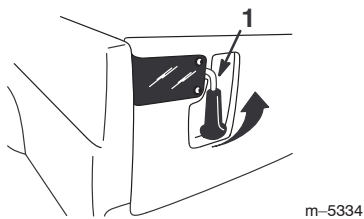

Figure 21
- To open the tailgate latches, lift the latch handles up (Fig. 21). The latches will spring out toward the center of the tailgate. Slowly lower the tailgate.